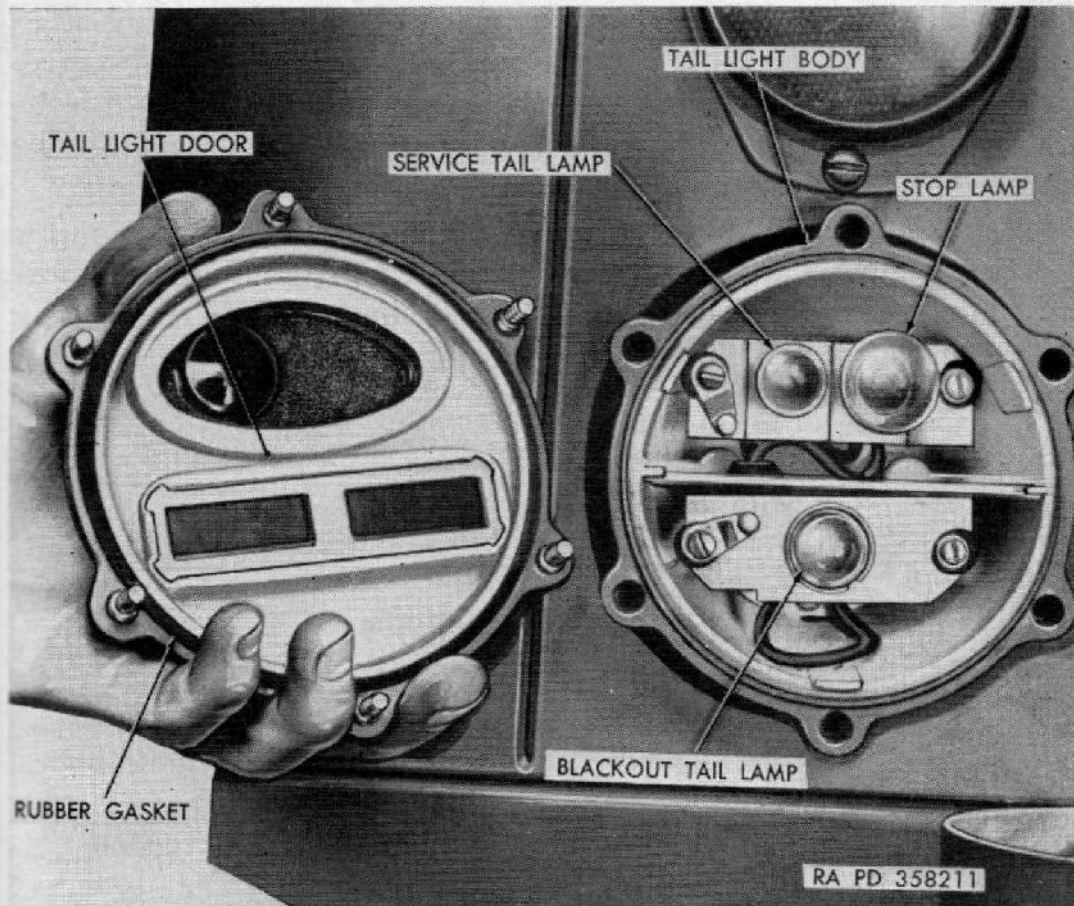

Figure 86. Stop and taillight with taillight door removed.
- (1) *Removal.* Remove six screws securing taillight door (fig. 86) to taillight body and remove taillight door and rubber gasket (fig. 86). Remove any of the three lamps (two lamps in right taillight), which are defective, by pushing in on lamp and turning counterclockwise.
- (2) *Installation.* Insert the replacement lamp in the socket and turn clockwise to secure. Install rubber gasket and taillight door (fig. 86) on taillight body and secure with six screws.